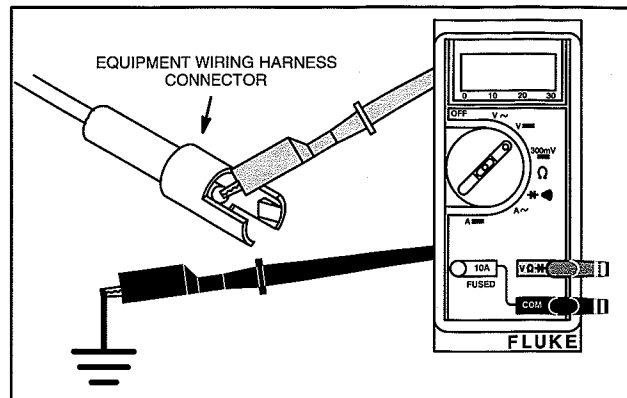

Fig. 148 – Checking Wiring
3. Attach black test lead to a good ground, Fig. 148.